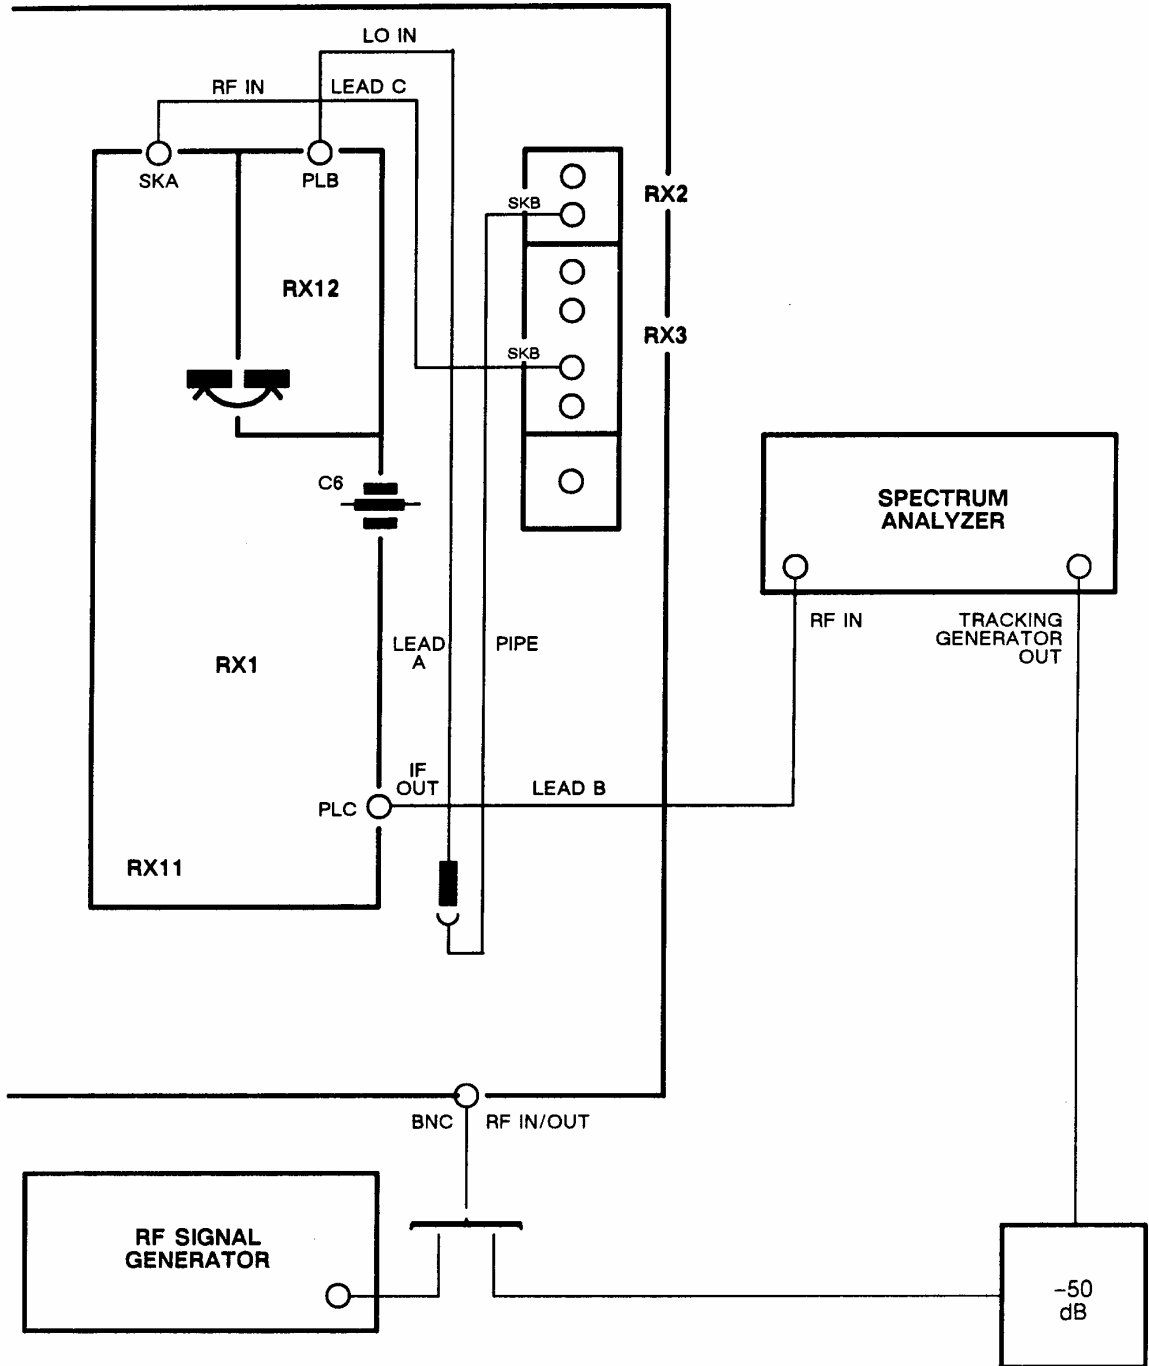

Fig. 5-2-17 Connections for checking 20 dB IF 180 kHz band-pass amplifier
- (1) On the 2955R, set the MODE to TRANSMITTER MONITOR, the TX FREQUENCY to 71.4 MHz, the RF IMAGE to LOWER, the IF FILTER to 180 kHz and the RF IN/OUT to the BNC socket.
- (2) Using lead A, connect its SMC plug to the free end of the pipe to SKB on RX2 and connect its SMC socket to PLB on RX1. See Fig. 5-2-17.
- (3) Using lead B, connect its SMC socket to PLC on RX1 and connect its other end to the spectrum analyzer (RF input).
- (4) Using lead C, connect one SMA plug to SKB on RX3 and connect the other SMA plug to SKA on RX1.